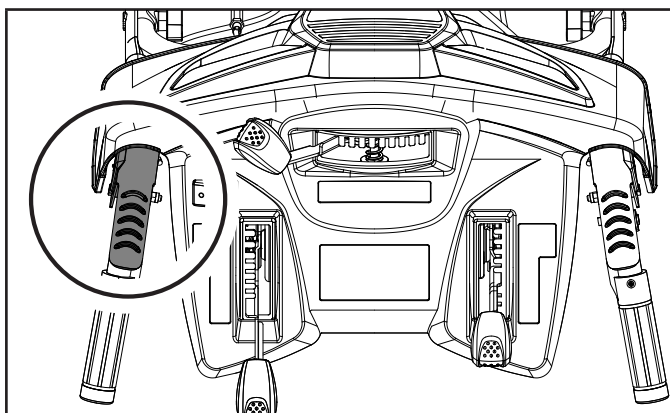

Figure 14
Self-drive control handle. Located on the left side handle (figure 14).
1. Located on the left-side (from behind the snowblower). When the snowblower has been put into gear, pushing this lever towards the handle engages the wheels. Releasing the self-drive control lever causes the machine to stop moving (Fig. 14).